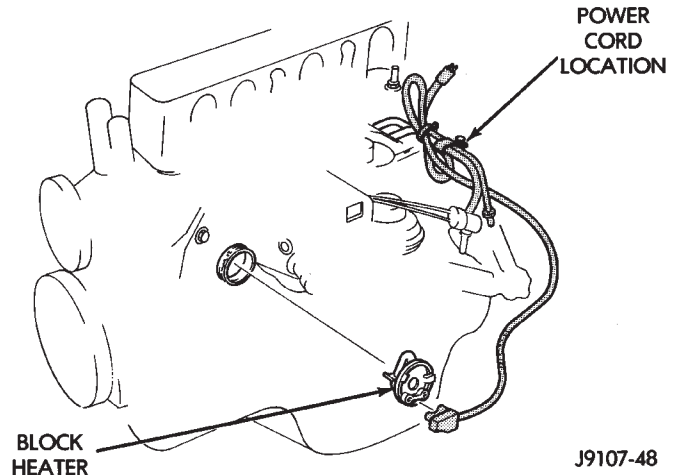

Fig. 11 Heater and Cord—XJ with 2.5L Engine
Refer to correct illustration (Figures 11, 12 or 13) when servicing block heater.
- (1) Drain coolant from radiator and engine cylinder block.
- (2) Unplug power cord from block heater.
- (3) Loosen screw in center of block heater (Figs. 11, 12 or 13).
- (4) Remove block heater from cylinder block.